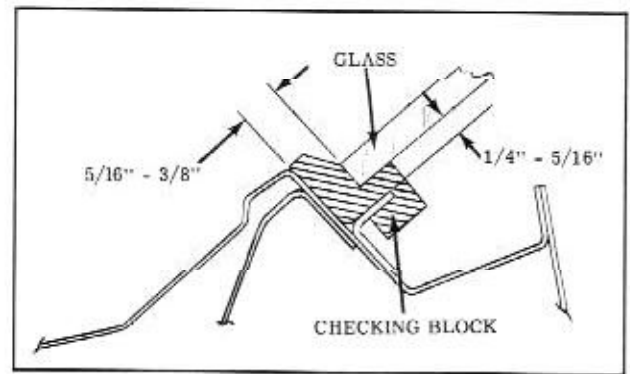

Fig. 15-8 Windshield Opening Check
6. With windshield glass supported and centered in the body opening by checking blocks, check relationship of glass. Fig. 15-8 shows a typical section taken through the glass channel and body opening. Check glass to body relationship as follows: